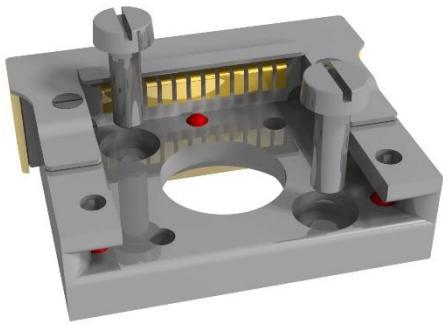

Figure 11: top mounting
- From the top using the two countersunk through holes for metric M2 screws (Figure 11)